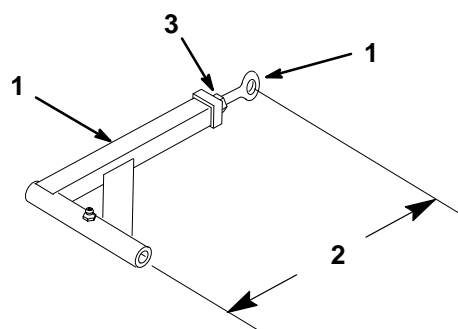

Figure 49
9. If the fixed idler contacts the end of the adjustment slot and more belt tension is required, a small change in the lengthen the push arms can be made (Fig. 49).